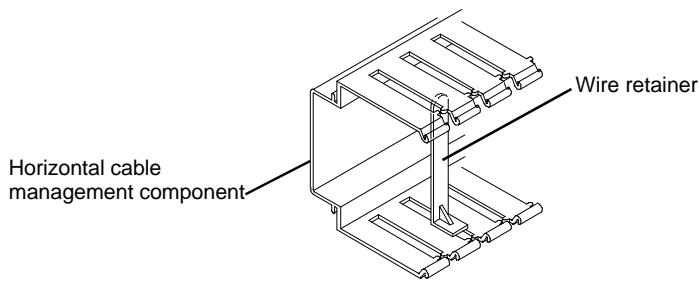

Figure 4
3. Install the **Wire Retainers** (provided) as shown in **Figure 4**.